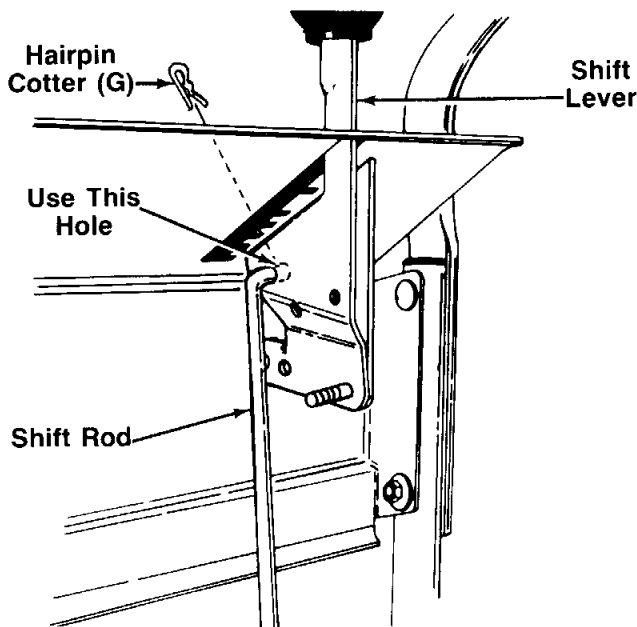

FIGURE 11.
15. Place shift lever (R) through slot in handle panel, making sure flared edge of shift lever faces the detents on handle panel. Place the hole in the end of the shift lever over the handle panel weld bolt. See figure 11.
16. Place the shift lever in reverse (R) position. **Pull the shift rod (assembled to the ferrule in step 3) back sharply, as far as it will go, to put into full reverse position.** Thread the shift rod in or out of the ferrule as necessary until the end of the rod lines up with the hole in the shift lever. Insert end of rod into hole in shift lever as shown in figure 11, and secure with hairpin cotter (G).